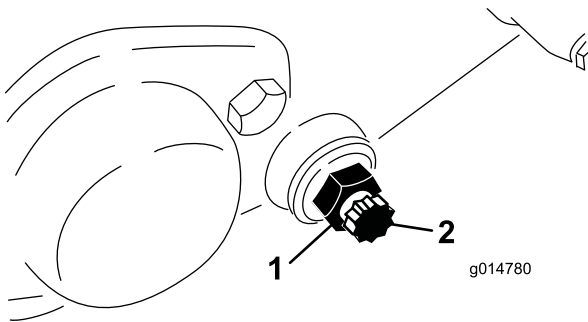

Figure 57
3. On each side of the machine, loosen the jam nut that secures the bedbar bolt (Figure 57).
4. Remove each bedbar bolt allowing the bedbar to be pulled downward and removed from the machine. Save the 2 nylon and 2 stamped steel washers on each end of the bedbar (Figure 57).